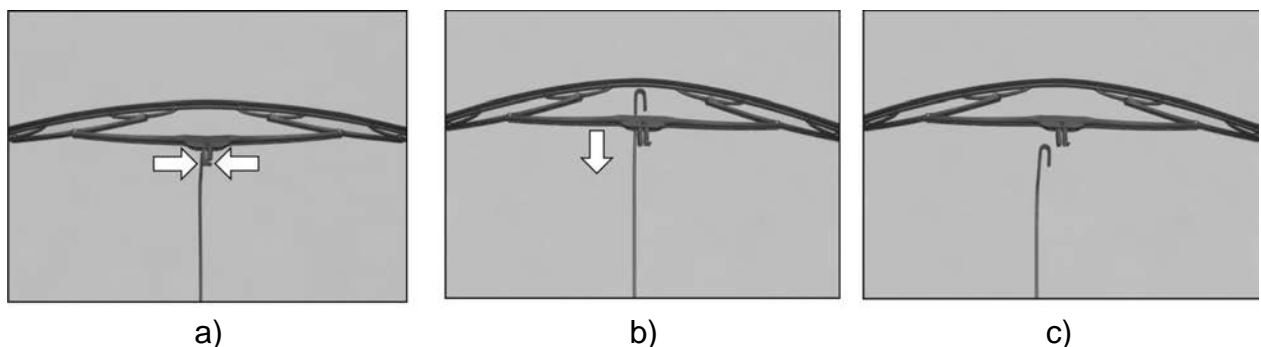

Fig. 7.30. Wiper blade replacement
- press the plastic clamp ends, according to the arrows shown in Fig. 7.30, a;
- slide the blade along the arm in the arrow direction (Fig. 7.30, b) and remove the blade (Fig. 7.30, c);